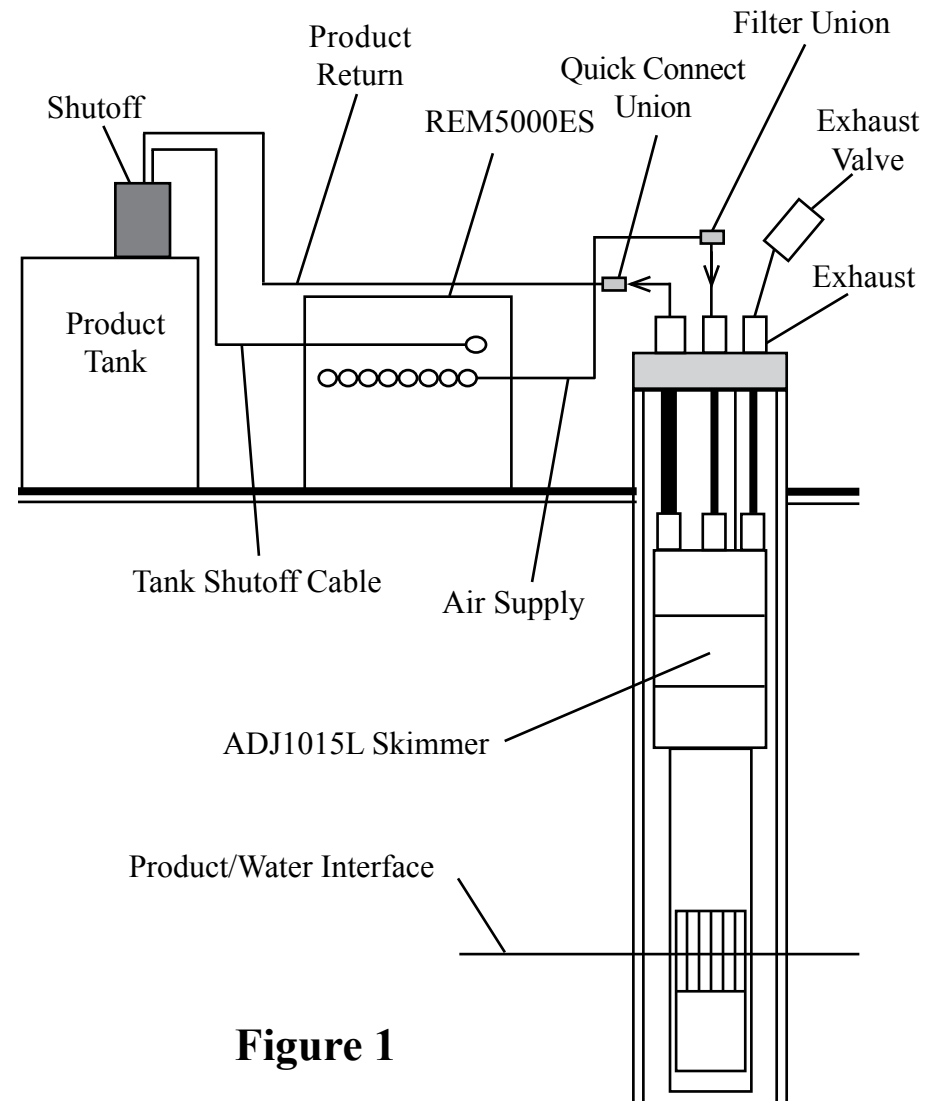
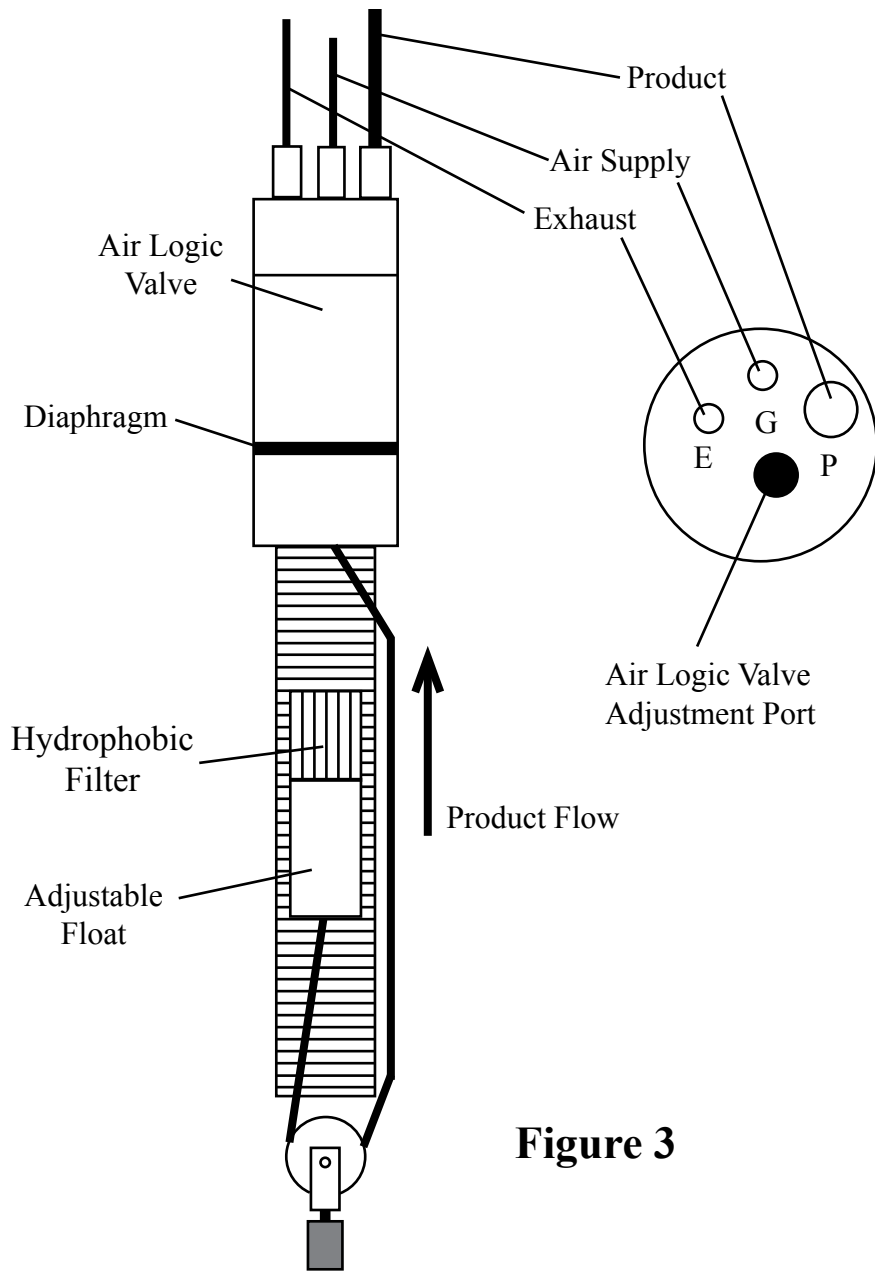

Figure 1
Figure 3
The system (Figure 1) relates to a floating LNAPL recovery system for wells four inches in diameter and larger. This system includes: an intrinsically safe ADJ1015L pneumatic Smart Skimmer, with an adjustable float (Figure 3), which removes LNAPL up to 200 feet deep; and a solar powered Control Station Model REM5000ES which operates up to 8 skimmers intermittently, records run time, and has a high level tank shutoff assembly.
STEP 2. Install holding tank shutoff assembly into holding tank (a 2” standard pipe inlet will be required in the holding tank). The level of product in the holding tank can be set by raising or lowering the liquid level float switch rod. Plug the high level shutoff switch cable connector into the left end of the controller (Figure 1).
STEP 6. Position the skimmer and well cap on the ground near the well. **NOTE:** If the skimmer is over 60 feet deep, use a vented design skimmer. Cut a length of 3/8" OD air supply tubing to cover the distance from the top of the well down to water/product interface, plus 5 feet. Slide enough tubing through the well cap and attach the end of the tubing to the top of the skimmer tube fitting labeled "G" (Figure 3). If the product thickness is greater than 1 foot, position the center of the skimmer screen 1 foot below top of product. If the product thickness is less than 1 foot, position the center of the skimmer screen at the water/product interface.
STEP 7. Cut a length of 1/2" OD product tubing same length as the air supply line. Install 1/2" OD product tubing through the well cap tube fitting labeled "P" (Figure 3). Slide enough tubing through the well cap and attach the end of the tubing to the top of the skimmer tube fitting labeled "P". **CAUTION:** Do not kink the tubing.